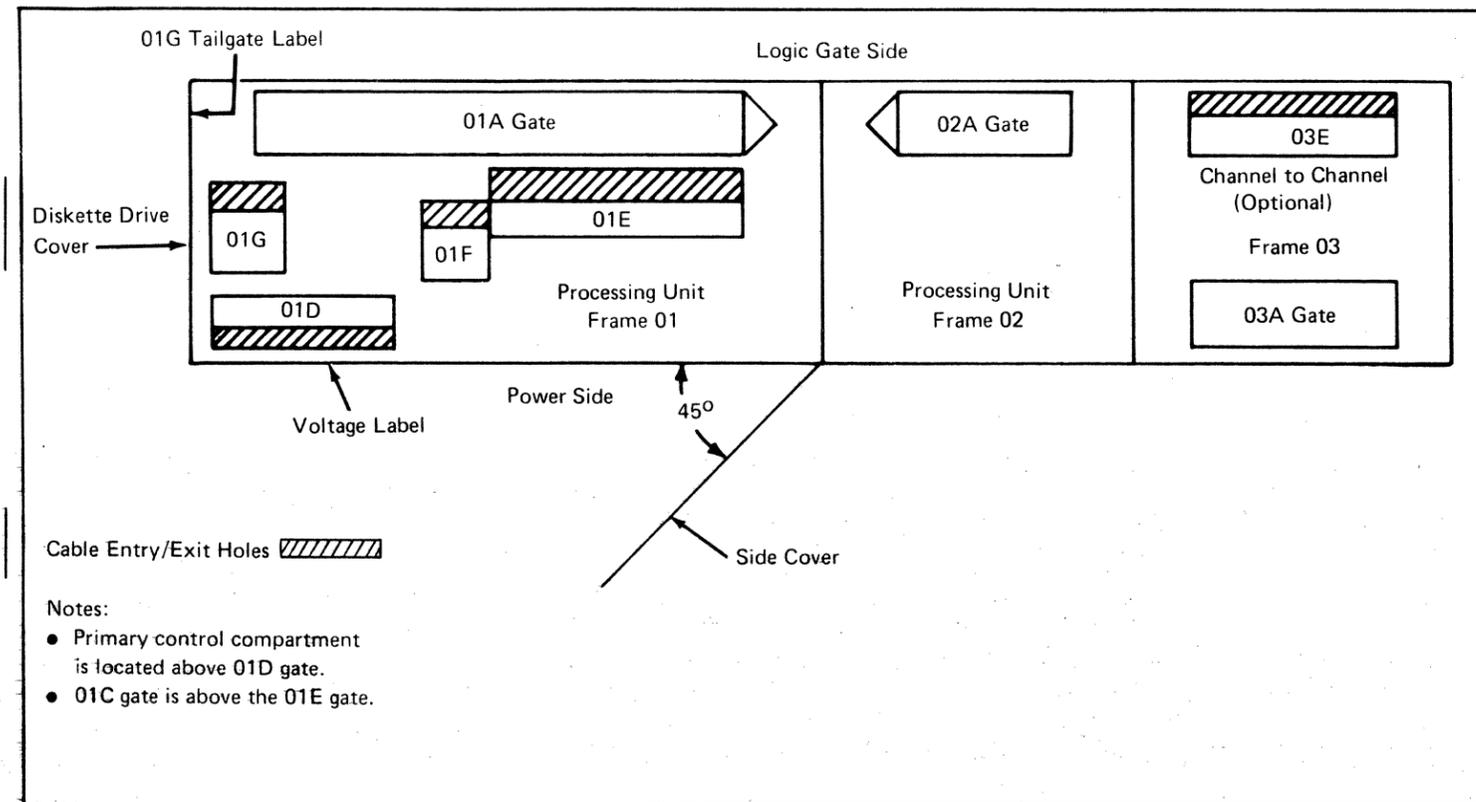

FIGURE 1 - Locations (Top View)
- The cable entry/exit holes shown in Figure 1 represent locations on the machine and do not represent or require a corresponding hole in the floor for subfloor installations. Cables from more than one cable entry/exit hole may be routed through one hole in the floor.
If this is a Remote Support Facility machine, another box contains the RSF external cable or the RSF cable is already installed in the 01G tailgate. For location of the 01G tailgate, see Figure 1 on page 48 020.
8. Check the voltage label (see Figure 1) on the cover of the primary control compartment (PCC) box to ensure that system and input power are the same. If they do not match, see YAO15 to make the correct wiring adjustment, or invoke your support structure.
1. Open the covers to an angle of 45 degrees (Figure 1).